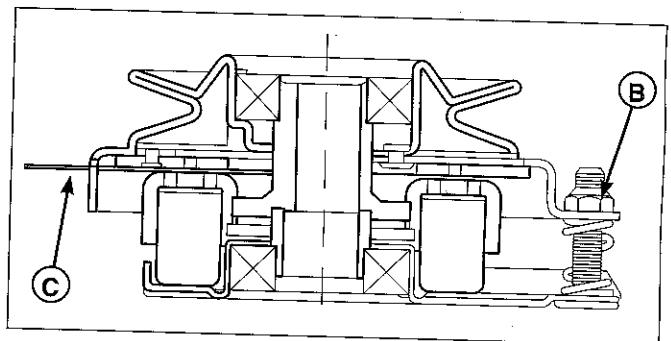

Figure 47. Adjust PTO Clutch
3. Insert a .016"-.018" (0,40-0,45mm) feeler gauge (C) through each window, positioning the gauge between the rotor face and the armature face as shown in Figure 47.
4. Alternately tighten the adjustment nuts (B, Figure 47) until the rotor face and armature face just contacts the gauge.
6. Check the mower blade stopping time. See **BLADE BRAKE CHECK**. The mower blades and mower drive belt should come to a complete stop within seven (7) seconds after the electric PTO switch is turned off.